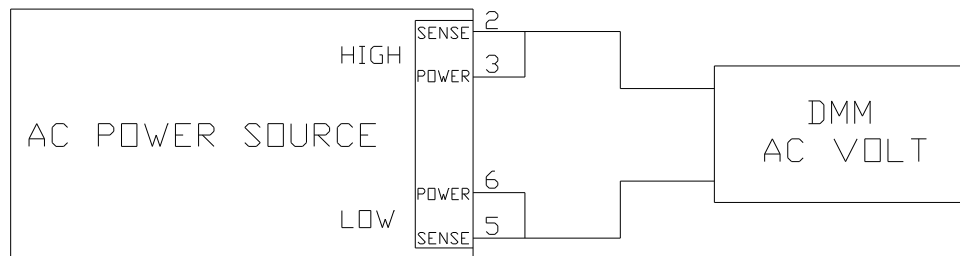

Figure 6-1: Test Equipment Hookup for Routine Output and Voltage Measurement Calibration
Connect the test equipment to the power source as shown in Figure 6-1. The DMM can be connected to the common output terminal at the rear of the unit.
1. Connect the test equipment to the power source as shown in Figure 6-1.
1. Connect the test equipment to the power source as shown in Figure 6-1. Do not connect the load.
1. Connect the test equipment to the power source as shown in Figure 6-1. **Do not** connect any load during this step. Voltage calibration must be done under no load conditions.